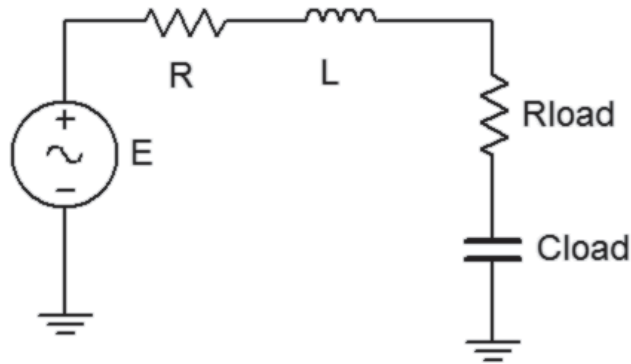

Figure 12.1
1. Build the circuit of figure 12.1 using $R=1\text{ k}\Omega$ and $L=10\text{ mH}$, but leaving off the load components. Replace the generator with a $50\ \Omega$ resistor and determine the effective source impedance at 10 kHz using the impedance meter. Record this value in Table 12.1, including both magnitude and phase. Determine the load impedance which should achieve maximum power transfer according to the theorem and record in Table 12.1. Finally, determine values for R_{load} and C_{load} to achieve this load impedance and record in Table 12.1, also copying the resistance value to the first R_{load} entry of Table 12.2.